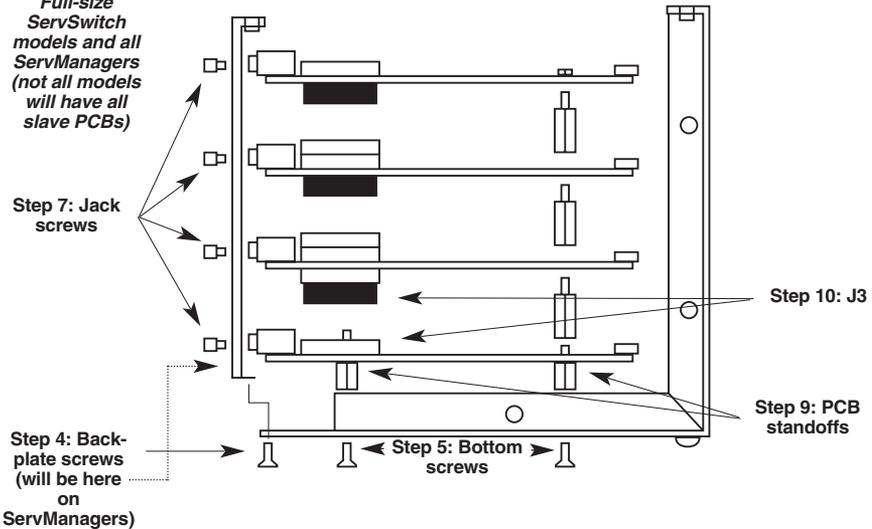
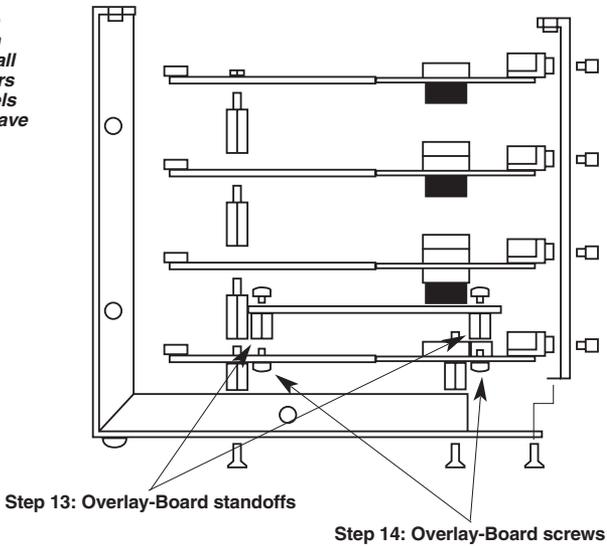

Figure E-1. Exploded left-side view.
Figure E-4. Exploded right-side view.
4. Unscrew and remove the three screws that fasten the back panel to the bottom panel. On the ServManager and on mini ServSwitch models, these protrude from the back panel. On the other ServSwitch models, they are countersunk and are on the bottom panel. See Figure E-1 on the next page.
5. Unscrew and remove the screws on the Serv unit's bottom panel that fasten the unit's PCB(s) to the panel. On the ServManager and mini ServSwitch models, there are two of these; on the other ServSwitch models, there are three. See Figure E-1 on the next page.
7. Unscrew and remove the jack screws on the back panel that fasten the Serv unit's DB25 connectors to the panel. On 8-port units, there are 18 of these; on 12-port units, there are 26; on 16-port units, there are 34. See Figure E-1 on the previous page.
9. Unscrew and remove the PCB standoffs that attach the bottom ("master") PCB to the rest of the PCB stack. There will definitely be two of these at the front of the master PCB; there might also be one on the narrow right-hand end. See Figure E-1 on the previous page, Figure E-2 on the next page, and Figure E-3 on page 105.
13. Carefully plug the Overlay Option Board into J4, aligning the Board's mounting standoffs over the two mounting holes in the PCB. See Figure E-2 on the next page and Figure E-3 on page 105. For mini ServSwitch models, see also Figure E-1 on the previous page; for other ServSwitch models and ServManagers, see also Figure E-4 on page 107.
14. Mount the two washers included with the Overlay Option Board on the two screws that are also included. (You might have removed these from the Board's mounting standoffs in Step 12.) Screw the screws through the bottom of the PCB's mounting holes into the Overlay Board's standoffs. See Figure E-2 on the previous page. For mini ServSwitch models, see also Figure E-1 on page 101; for other ServSwitch models and ServManagers, see also Figure E-4 on page 107.